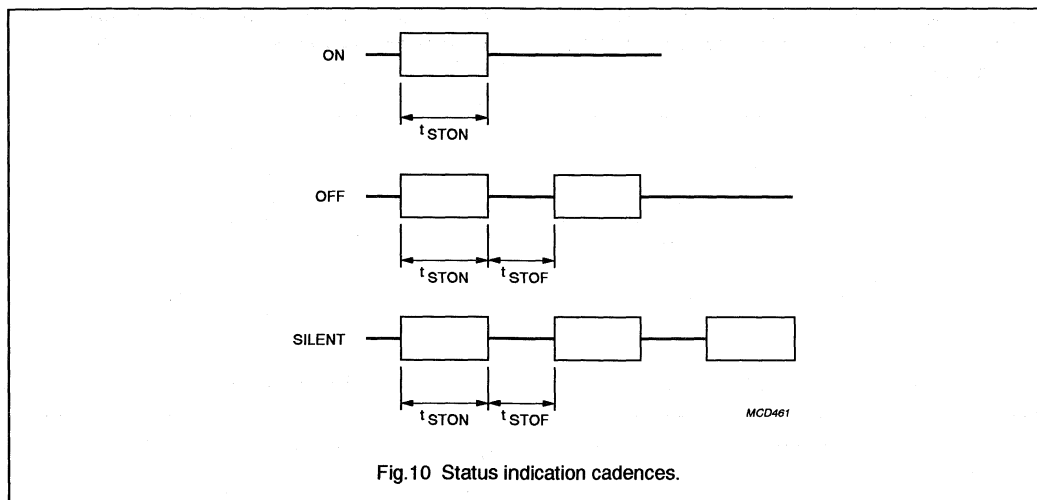

Fig.10 Status indication cadences.
On status interrogation by the status request and reset input (SR) the PCF5001 generates a status cadence at LOW-level, in accordance with the present internal decoder status (see Fig.10).